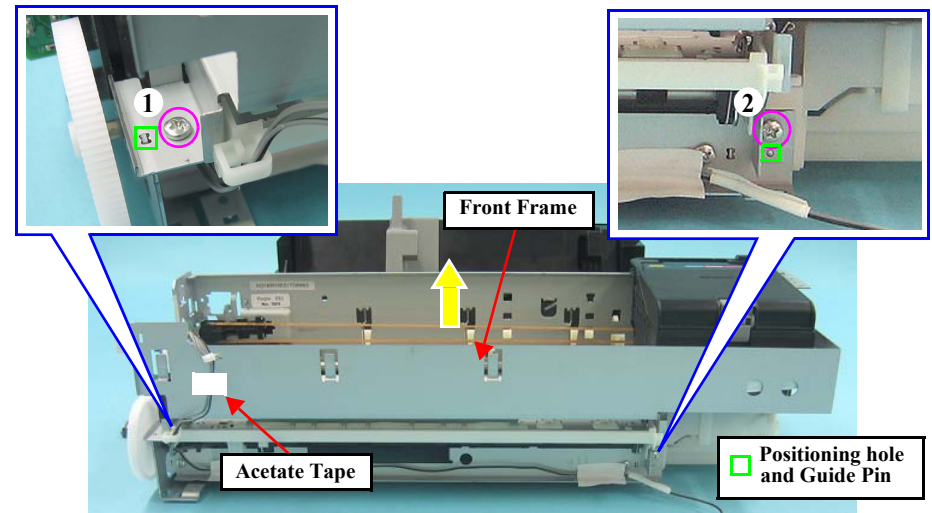

Figure 1-77. Removing the Front Frame
- When installing the Front Frame, match the positioning holes of the Front Frame with the guide pins of the Main Frame (two pairs), and tighten the screws in the order given in Fig.1-77 \(p.47\).